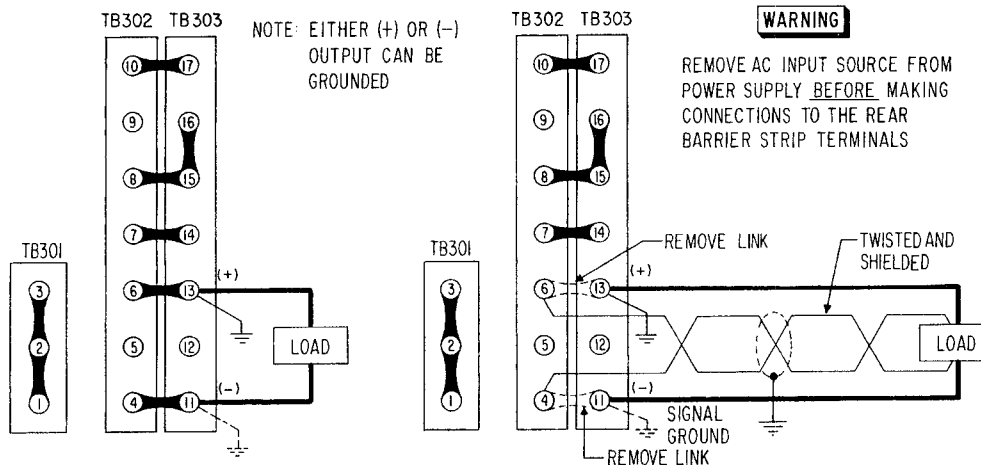

FIG. 3-4 LOAD CONNECTION WITH AND WITHOUT ERROR SENSING.
- 3-13 LOAD CONNECTION. The load may be connected to the front or the rear output terminals as shown. Specified d-c performance is measured at the error-sensing terminal (4)—(6). Front terminal connection and remote load operation requires, therefore, the use of error sensing as shown in FIG. 3-4. A twisted, shielded pair of sensing wires is connected to the rear sensing terminals and terminated directly at the load. The shielded error-sensing leads must be insulated to the shield for (at least) the maximum output voltage of the power supply. Specified d-c performance is now available directly at the load.
- 3-14 TURN-ON. A-C power line turn-on is indicated by illumination of the red signal lamp at the front panel. The BHK power supply is now in standby condition. **A waiting period of approximately 30 seconds should be allowed to let the filaments of the series regulator tubes reach their operating temperature.** After the d-c switch is turned on, output is available at the output terminals. The "d-c-on" condition is indicated by the illumination of one of the white VIX® lights on the front panel. D-C output may also be switched on remotely by removing the jumper-links between rear terminals (18)—(19) on TB304 and inserting a single pole switch between those terminals. The BHK power supply may be switched "on" or "off" with its front panel controls in any position.